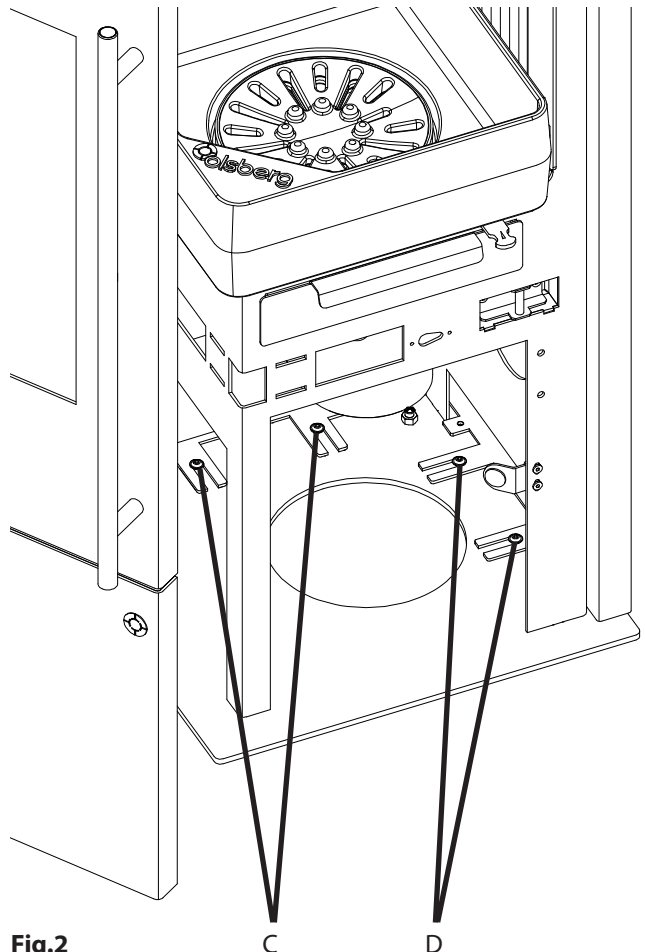

Fig.2
- Loosen the fastening screws (C) for the back panel and the fastening screws (D) for the side panel on the unit (by no more than 2 turns, see Fig.2).